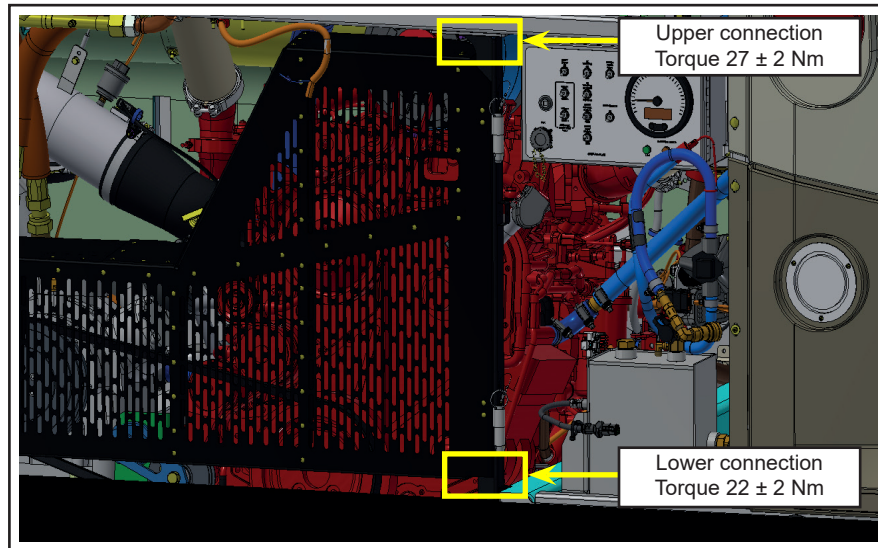

Figure 15 - Installation of Belt Guard
- 1.18. The bolts on the belt guard hinge post have been unscrew torque to 22 ± 2 Nm at the lower connection and torque 27 ± 2 Nm at the upper connection (see figure 15).